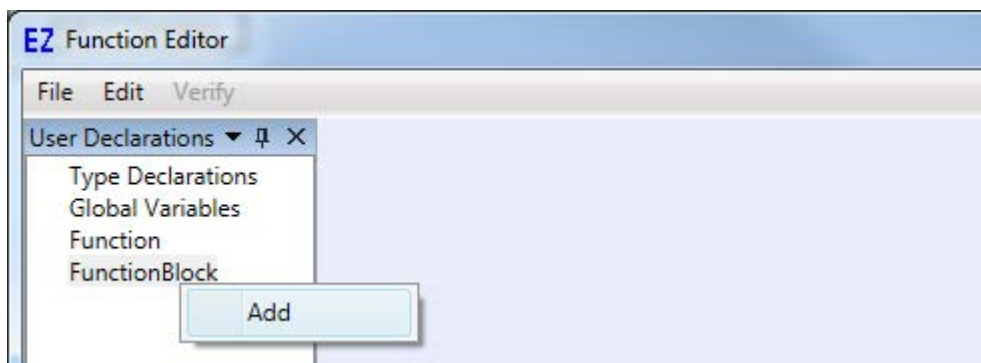

Figure 26-28
3. Click the User Defined Functions tab (see Figure 26-28) to view the list of user defined functions and function blocks. Select the type to import (function / function block). Right click and click **Add**. A new function block will be created with the default name *FunctionBlockx*.